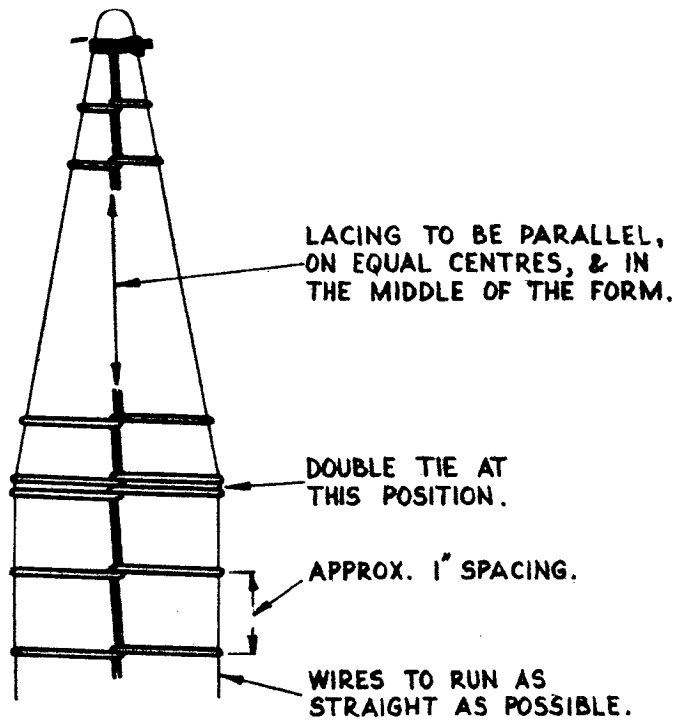

FIG. 9. SHELF LACING.
3.1 Shelf Lacing. Lacing of a formed cable feeding a shelf must be suitably spaced to coincide with the "Take Off" points of stringers. The whipping on the triples must be retained to the point where the stringer leaves the form and the laced form must be tied to the insulated posts provided along the rear of each shelf. See Fig. 9.